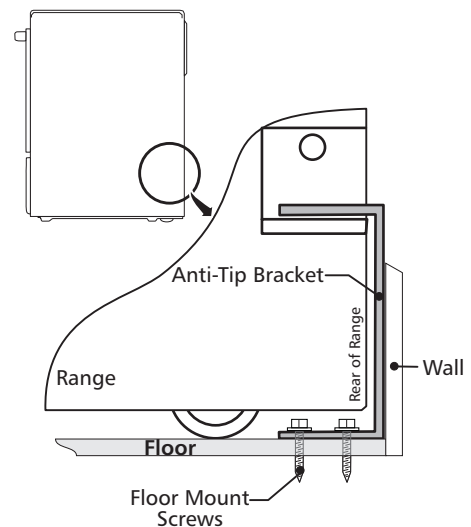

Figure 15
6. Slide range into place making sure structure of the range is trapped by the anti-tip bracket (Figure 15). Lower the range by adjusting the 4 levelling legs until the underside of the cooktop is sitting level on the countertop. Refer to "Levelling the Range" section.